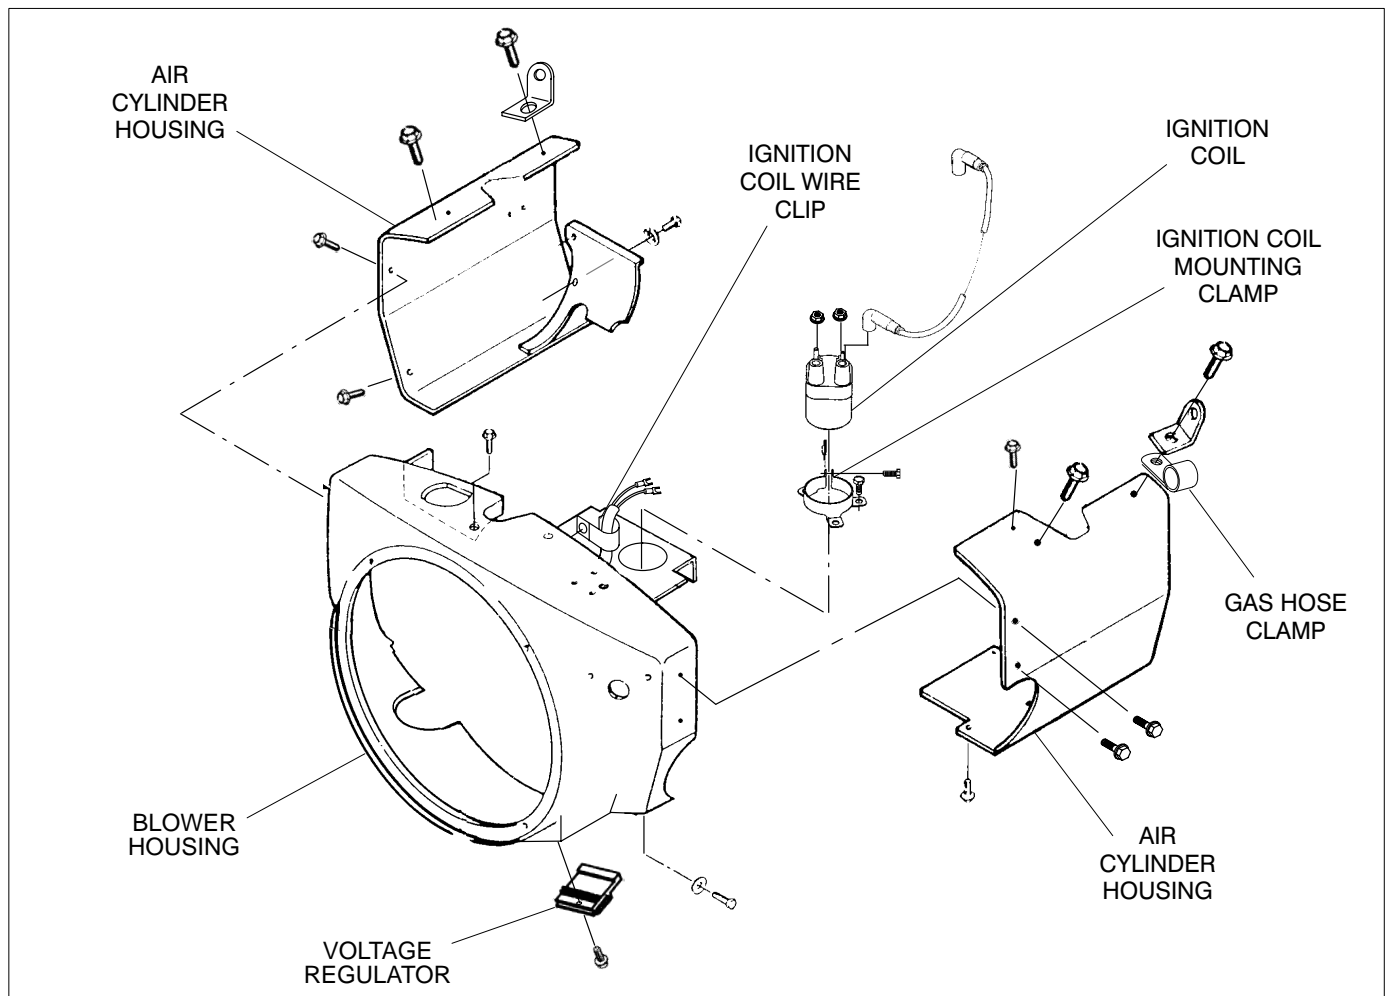

FIGURE 6-3. COOLING SYSTEM PANELS
These are air-cooled gensets. The centrifugal blower on the crankshaft blows cooling air across the fins on the engine cylinders and heads and discharges the warm air over and through the alternator divider panel and out the housing rear panel. Figure 6-3 shows the engine housing panels which direct the air flow.
7. Remove the remaining screws shown in Figure 6-3 that secure the two air cylinder housings and the flywheel/blower housing to the engine.